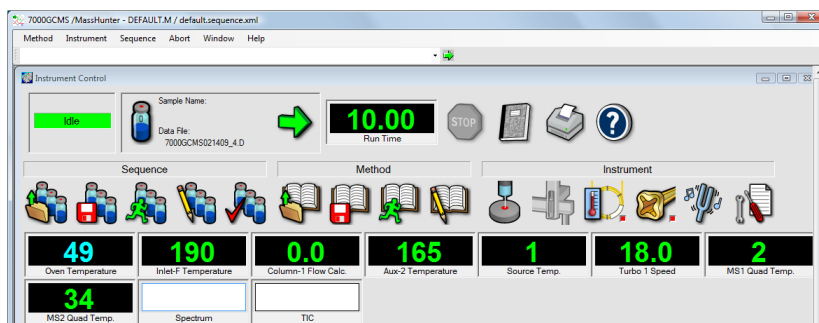

Figure 8 Arranging monitors
- 10 Select **Window > Arrange Plots and Monitors**, or click and drag each monitor to the desired position. See Figure 8 for one way of arranging the monitors.